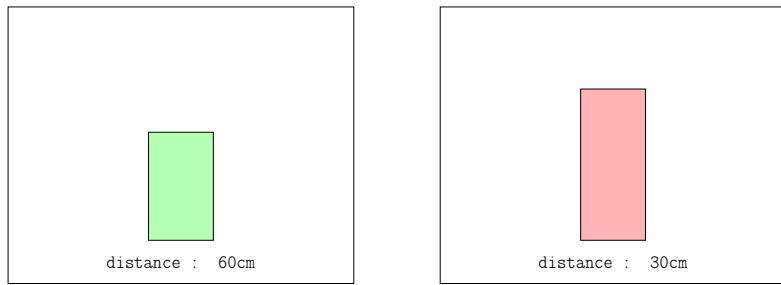

Figure 3: display example: sensor returns a long distance at left and a shorter at right
The distance to the obstacle is given by the duration of the Echo pulse. We use the EXTI peripheral to detect rising/falling edges, and a timer (TIM7) as a stopwatch to get the pulse width. The measure is stored in a global variable (figure 3).
**Question 4** Use the text and graphic functions of the TFT display to make a user interface as shown in figure 3. The bar graphs gets higher when the distance to the obstacle gets shorter. You can use colors.